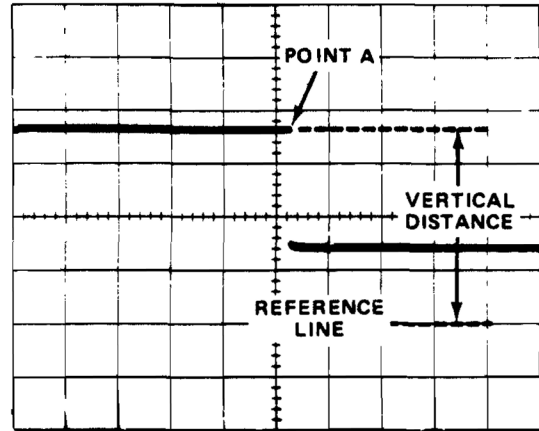

Fig. 1-5. Measuring instantaneous voltage with respect to some reference.
7. Measure the distance in divisions between the reference line and the point on the waveform at which the dc level is to be measured. For example, in Fig. 1-5 the measurement is between the reference line and point A.
EXAMPLE: Assume the vertical distance measured is 3.6 divisions (see Fig. 1-5) and the waveform is above the reference line using a 10X probe with a VOLTS/DIV setting of .5 V.